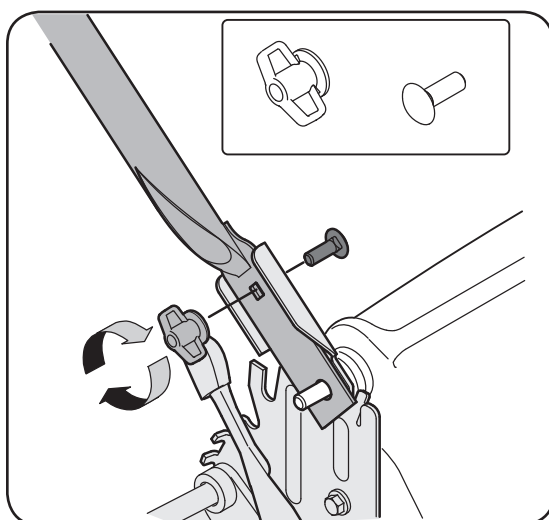

Figure 3-2
2. Place one carriage bolt (found in the hardware pack included with your unit) in the upper hole of the right handle mounting bracket from the inside outward. See Figure 3-2. Secure with one wing nut. Repeat process on the left side.